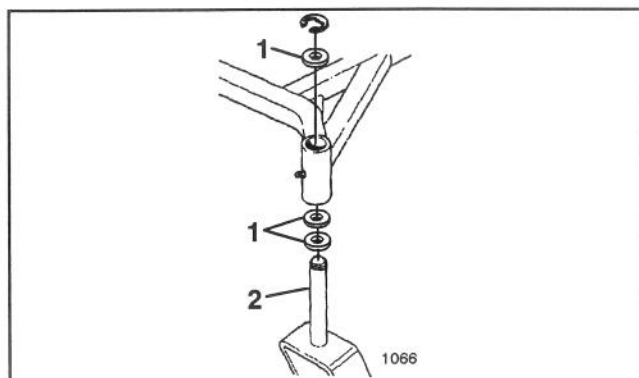

Figure 14
3. To change front-to-rear pitch move equal number of thrust washers on both front castor shafts. Move thrust washers from top to bottom to raise, or bottom to top to lower pitch (Fig. 14).
3. To change side-to-side leveling move thrust washers on one front castor shaft only. Move thrust washers from top to bottom to raise, or bottom to top to lower (Fig. 14).